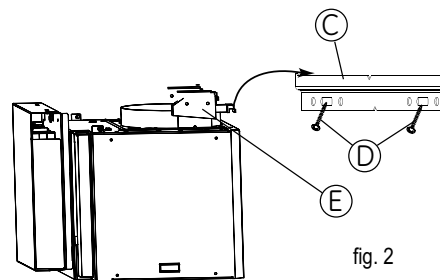

fig. 2
- Screw the fastening bar to the wall (C/fig. 2), with the 2 screws (D/fig. 2).
- Hang the hood from its hooks (E/fig. 2).
- Adjust height and level by moving the clamp screws (E/fig. 2) of the supports (the top screw for horizontal fit and the bottom screw for fitting against the wall).